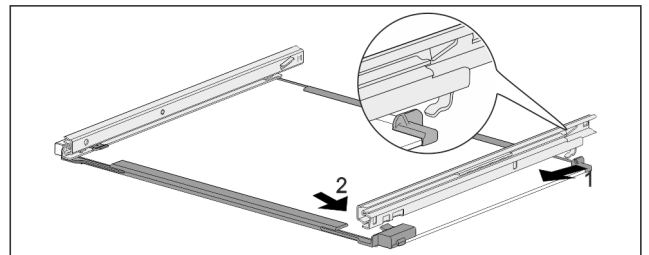

Fig. 176 Glass shelf with rails
- ▶ Hook in rail at the back. Fig. 176 (1)
- ▶ Hook in rail at the front. Fig. 176 (2)